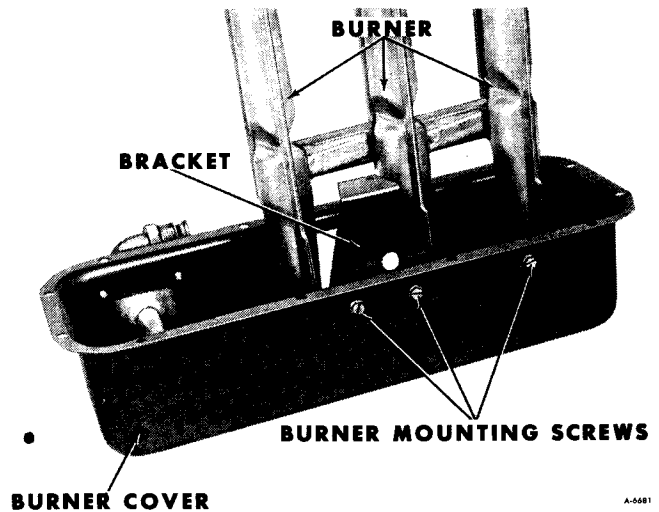

Figure 22—Burner Mounting To Burner Cover
**NOTE:** The burners are attached to the burner cover (figure 22).